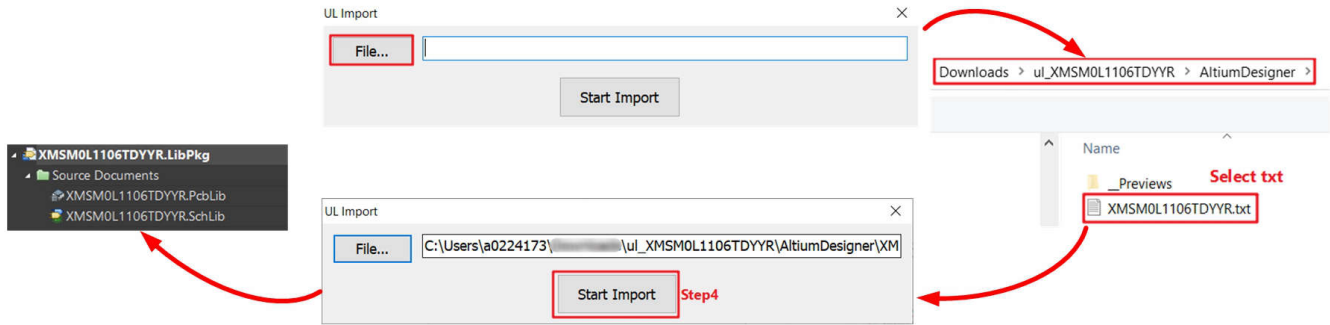

Figure A-15. Generate Library
5. Generate PCB library and schematic library as shown in Figure A-15.